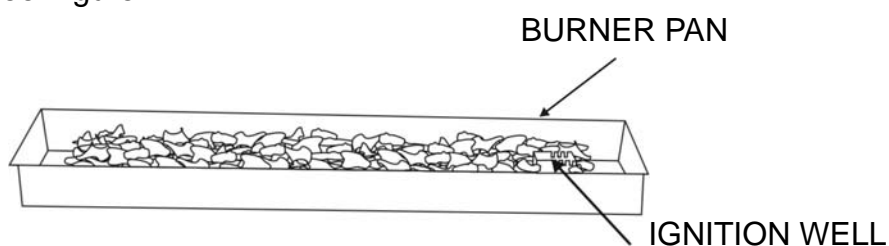

Figure 12
13. Pour the lava rocks (not included) into the burner pan completely covering the burner. See Figure 12.
14. Remove the cardboard cover from the ignition well as shown in Figure 12. Remove any lava rock or fire ice on top of ignition well.